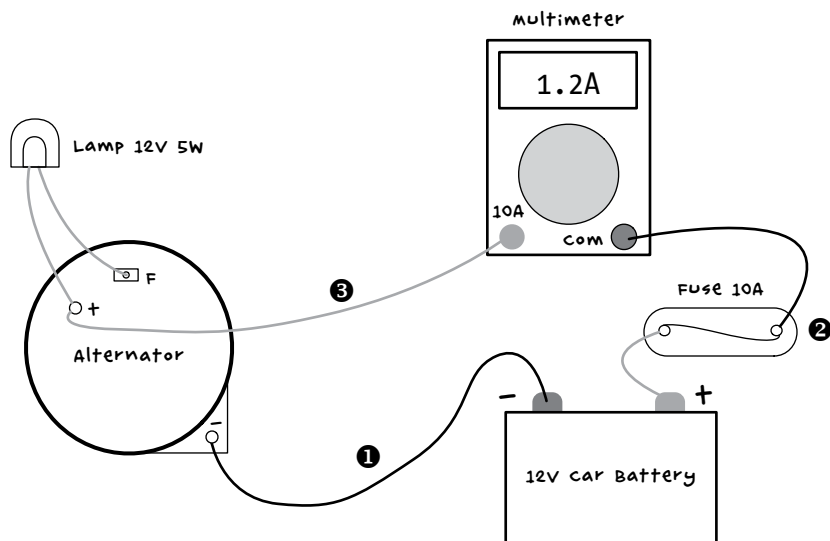
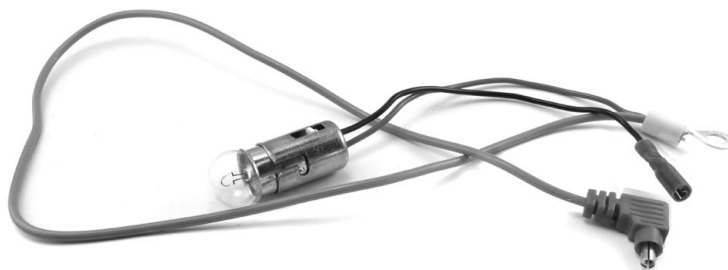

FIGURE 2-17: WIRING DIAGRAM FOR THE CYCLE CHARGER
FIGURE 2-20: THE POSITIVE CHARGING AND LIGHT BULB LEAD
Now that you know which terminal of the alternator is which, you need to make some leads to connect everything together. The wiring diagram shows how to do this (Figure 2-17).
There are a few leads to make. Let's start with the lead from the negative terminal of the alternator to the battery negative terminal (❶ in Figure 2-17). This needs a large alligator clip on the battery end and a butt connector on the other, as shown (Figure 2-18).
The most convenient type of fuse holder has trailing wires at each end. You can use these trailing wires to make the lead between the positive terminal of the battery and the multimeter (❷ in Figure 2-17). Attach an alligator clip lead to one fuse wire and attach the remaining third of the black multimeter lead to the other fuse wire. Wrap the connection between the fuse and multimeter leads with electrical tape, and you should have the completed lead (Figure 2-19).
The final of the three leads (Figure 2-20 and ❸ in Figure 2-17) combines both the lamp and the positive charging connector from the alternator to the multimeter.
With all the leads prepared, it's time to connect everything according to the diagram in Figure 2-17.